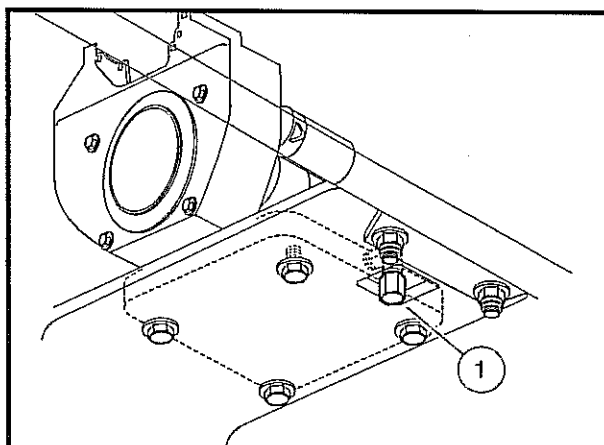
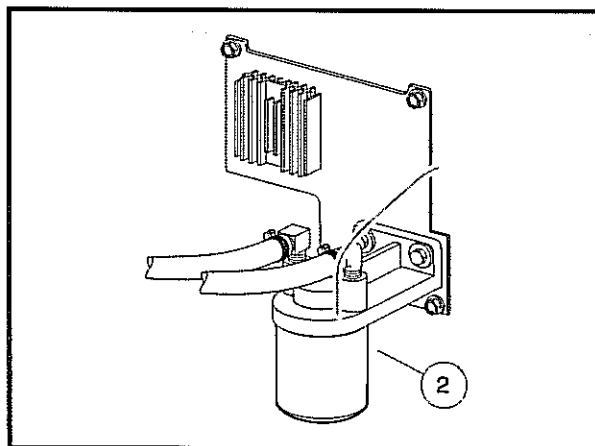
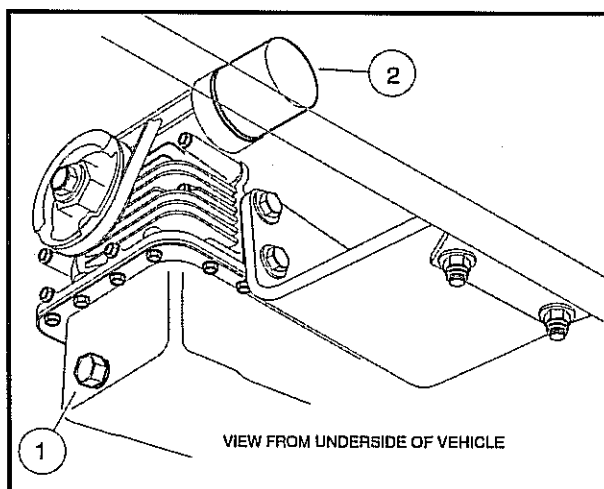

Figure 19 Engine Oil Drain Plug and Pan – Gasoline Vehicles
Figure 20 Replace Engine Oil Filter – Gasoline Vehicles
Figure 21 Engine Oil Drain Plug and Oil Filter – Diesel Vehicles
4. Position a pan designed for oil changes under the drain plug (Figure 19 or Figure 21).
- From the underside of the vehicle, use a socket- or box-end (do not use an open-end) wrench to remove the drain plug (1). Turn the plug counterclockwise and drain the engine oil into the pan. **See following WARNING.**
2. Place the oil drain pan under the engine oil filter (2) (**Figure 20** or **Figure 21**).